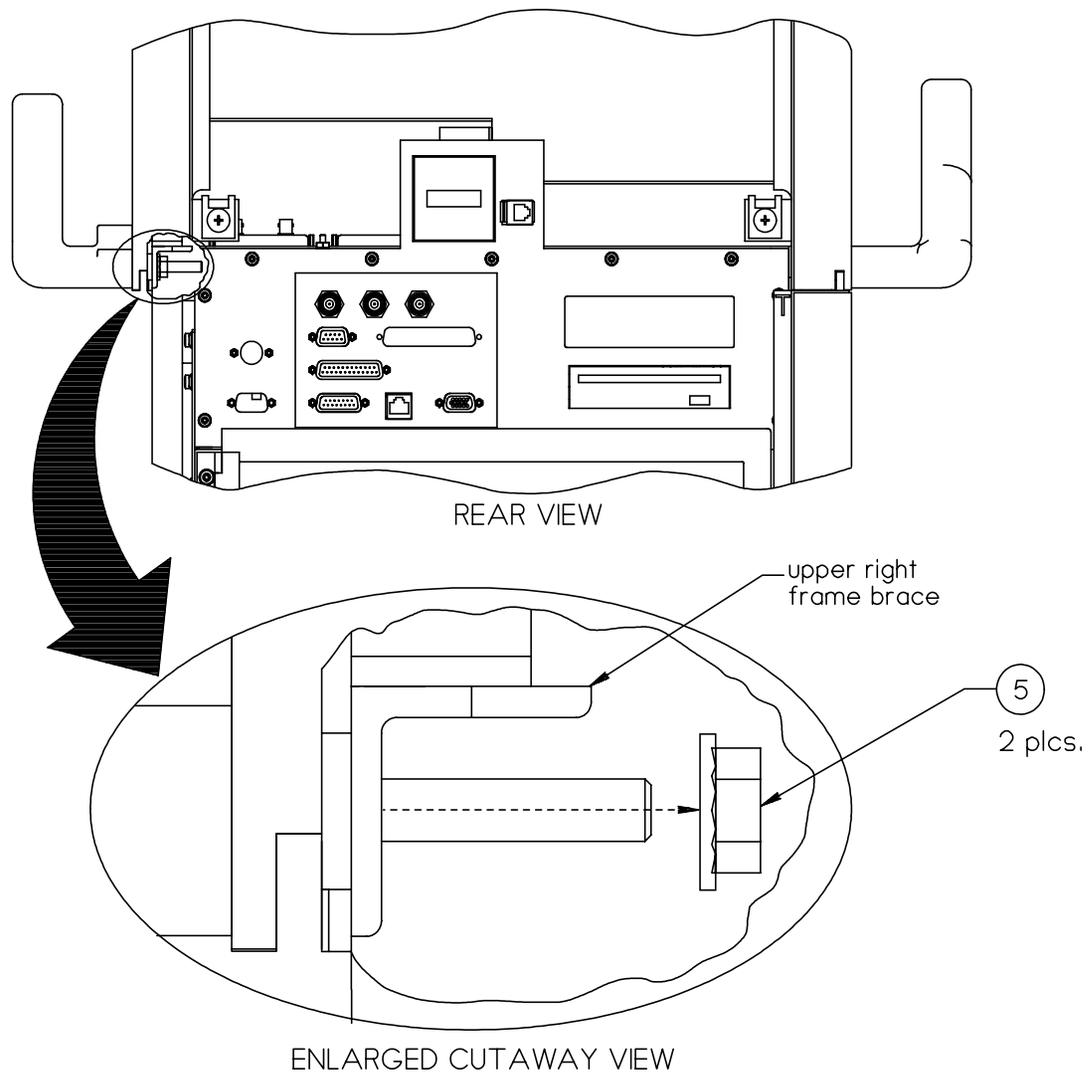

Figure 16
5. Remove the two hex nuts (& their washers) from the Retention Bracket's threaded studs. (These hex nuts secure the Retention Bracket to the upper-right frame brace.) See Figure 16.